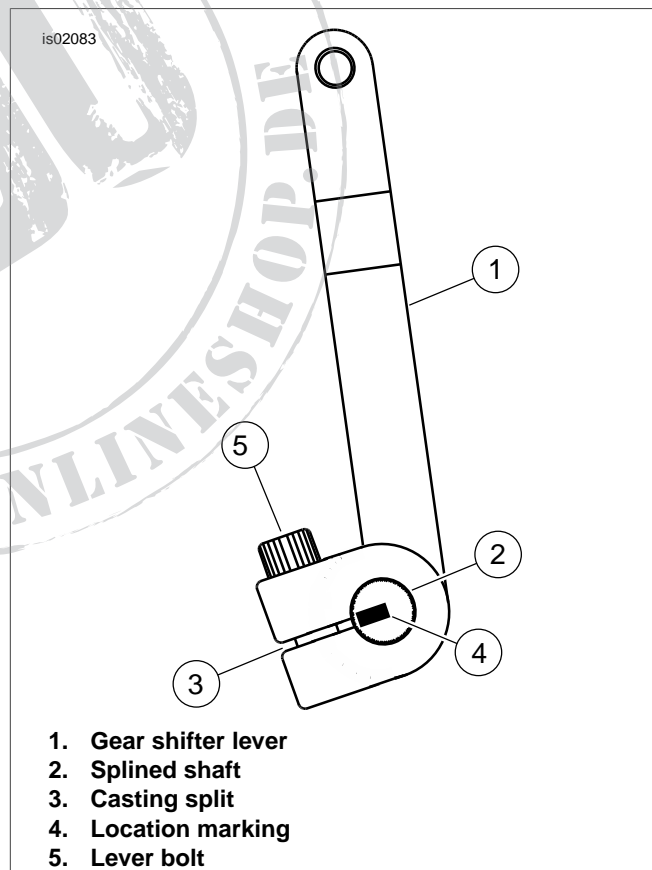

Figure 1. Gear Shifter Lever Orientation
See Figure 1. Before removing the gear shifter lever (1) ((H) in Table 1), it is necessary to mark the correct orientation of the lever. Using a marking tool, draw a location marking (4) on the end of the splined shaft (2) across from the casting split (3). This will allow the new gear shifter lever to be installed in the same orientation as the old lever.